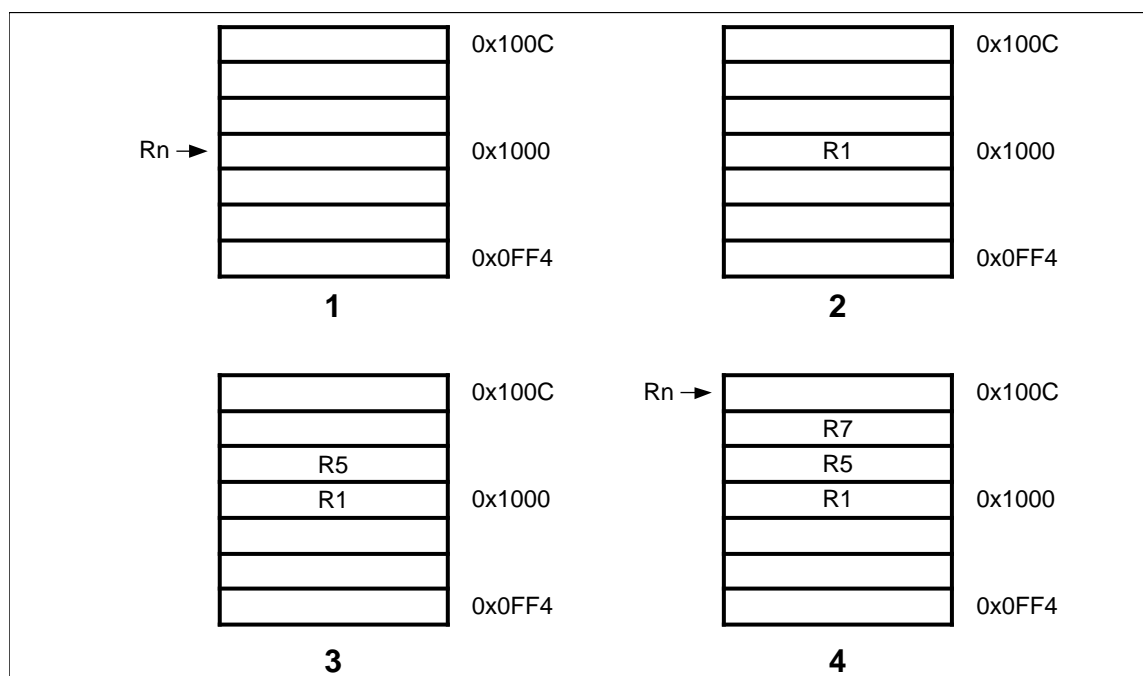

Figure 4-16: Post-increment addressing
The transfer addresses are determined by the contents of the base register (R_n), the pre/post bit (P) and the up/down bit (U). The registers are transferred in the order lowest to highest, so R_{15} (if in the list) will always be transferred last. The lowest register also gets transferred to/from the lowest memory address. By way of illustration, consider the transfer of R_1 , R_5 and R_7 in the case where $R_n=0x1000$ and write back of the modified base is required ($W=1$). *Figures 4-16, 4-17, 4-18 and 4-19* show the sequence of register transfers, the addresses used, and the value of R_n after the instruction has completed.